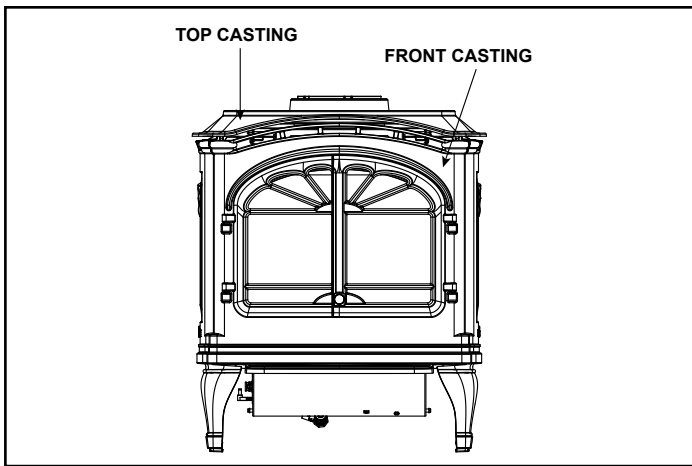

Figure 11. Remove Casting
9. Remove front casting. See Figure 11.